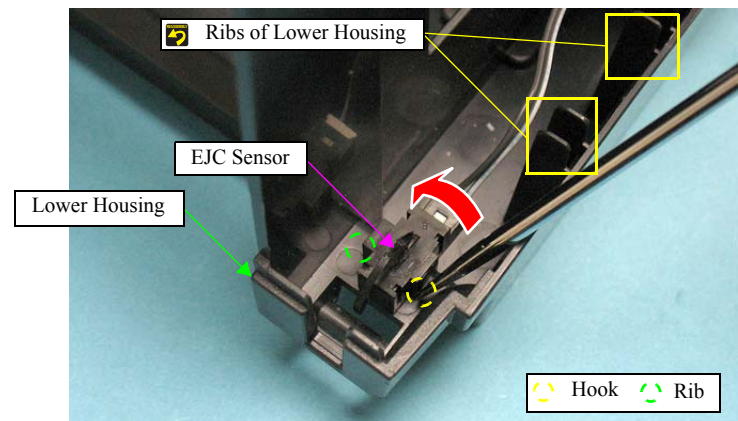

Figure 4-248. Removing the EJC Sensor (2)
- Route it inside the ribs of the Lower Housing. (See Figure.4-248.)
- When installing the EJC Sensor, first insert its rib shown in Figure.4-248 into the hole of the Lower Housing, and then secure the sensor with the hook.